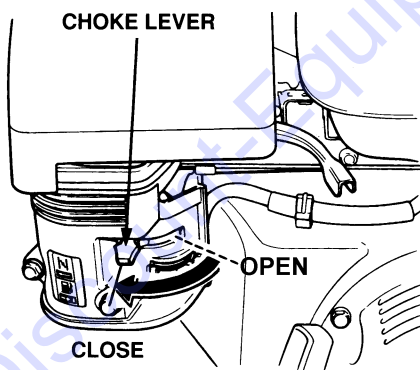

Figure 18. Choke Lever
- Place the **Choke Lever** (Figure 18) in the "**CLOSED**" position.